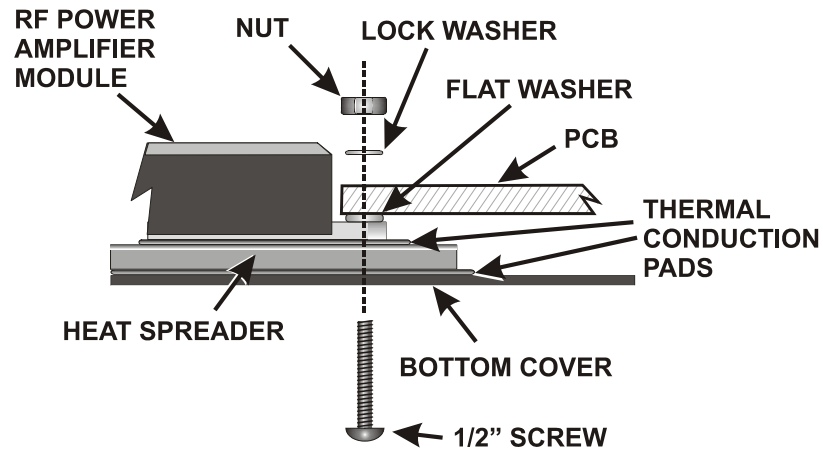

Figure 36. RF Amplifier Module Mounting Hardware.
the RF power module to the bottom cover. Follow the steps carefully to ensure the module makes good thermal contact with the bottom cover and the leads line up properly with the RF PCB. The completed hardware assembly is shown in Figure 36 .
- Inspect the RF Power module to be sure you have the module and hardware installed exactly as shown in Figure 36.